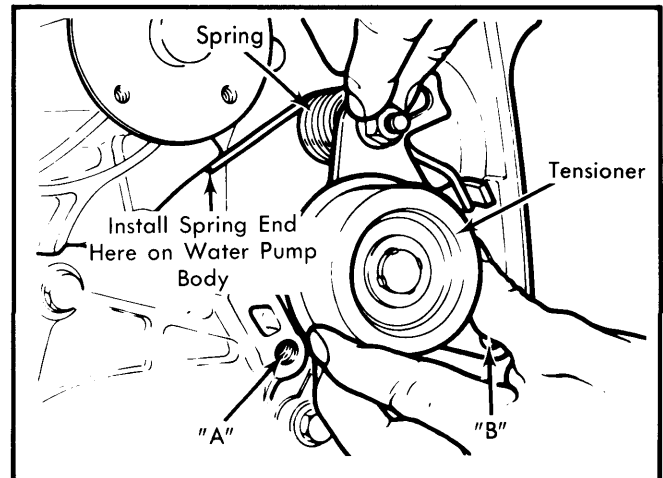

Fig. 9 Installing Tensioner on 1600 cc Engine
3) On 1600 cc engines, push the flange located under the tensioner in the direction of the arrow, align the holes "A" and "B", and thread the bolts into the holes. Install the front end of the spring on the projections of the tensioner and the other (straight) end of the spring on the water pump body (1600 cc). See Fig. 9.